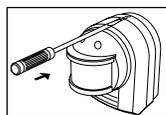
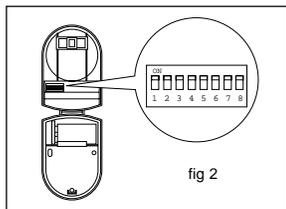

fig 11
fig 2
THE SYSTEM CODE in the Detector must match that in the Receiver Unit (see figs 2 and 3). See fig 11 on page 5 for instructions on how to open the Detector unit. Make a note of the Receiver Unit settings and, if necessary, simply move the slider-switches in the PIR Detector unit to match.
- Open the PIR Detector by inserting a small slotted screwdriver into the slot at the base of the unit. Push screwdriver gently to release catch and to allow front cover to be opened fully - the cover is hinged at the top (see fig 11).